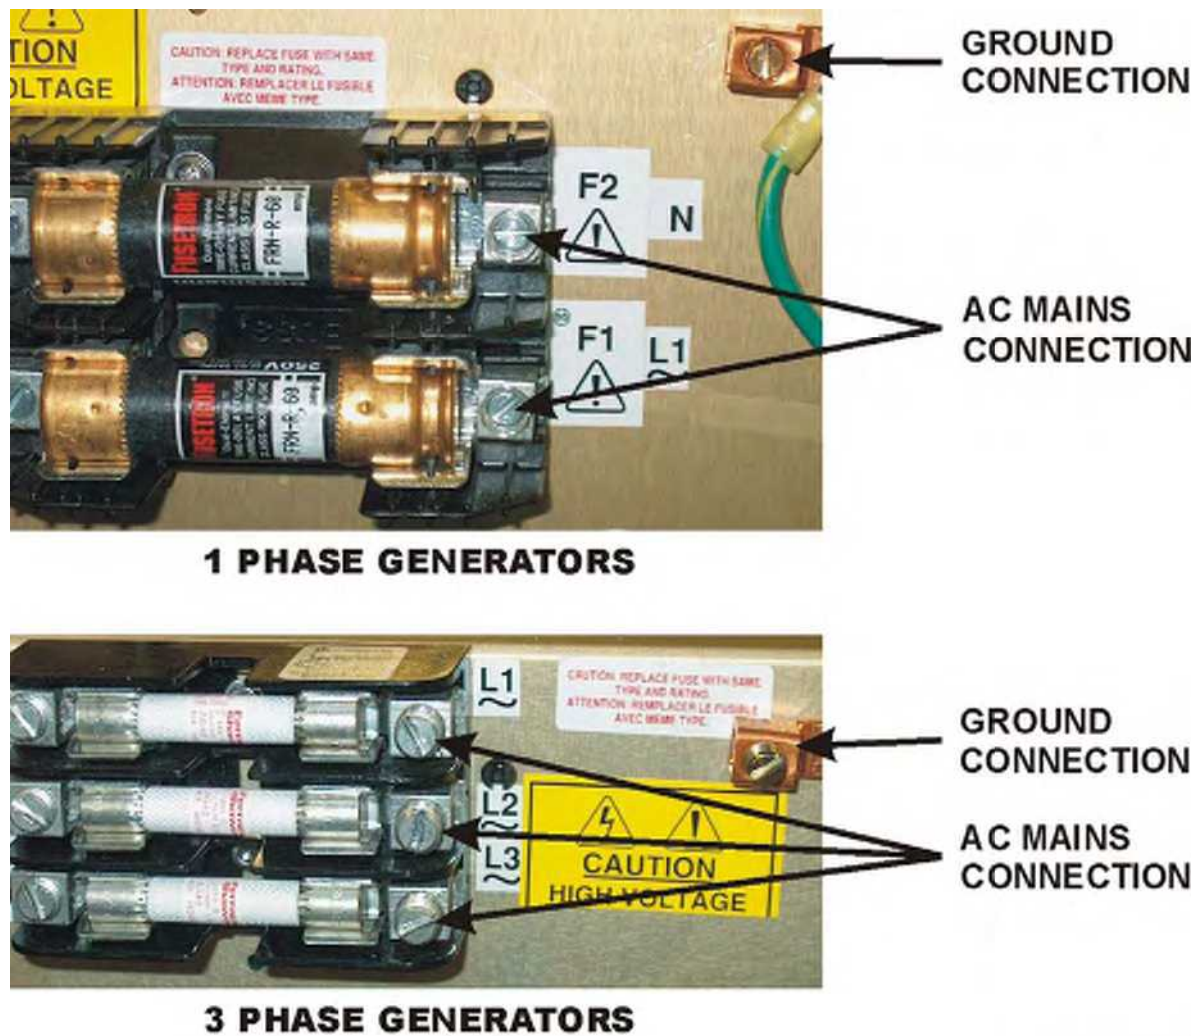

Figure 2-5: Generator mains connection
4. Connect the ground wire to the chassis ground connector, and connect the mains power wires to the terminals on the main fuse holder shown in figure 2-5 (for 1 phase generators connect the mains to F1 and F2; for 3 phase units connect the mains to F1, F2, and F3).